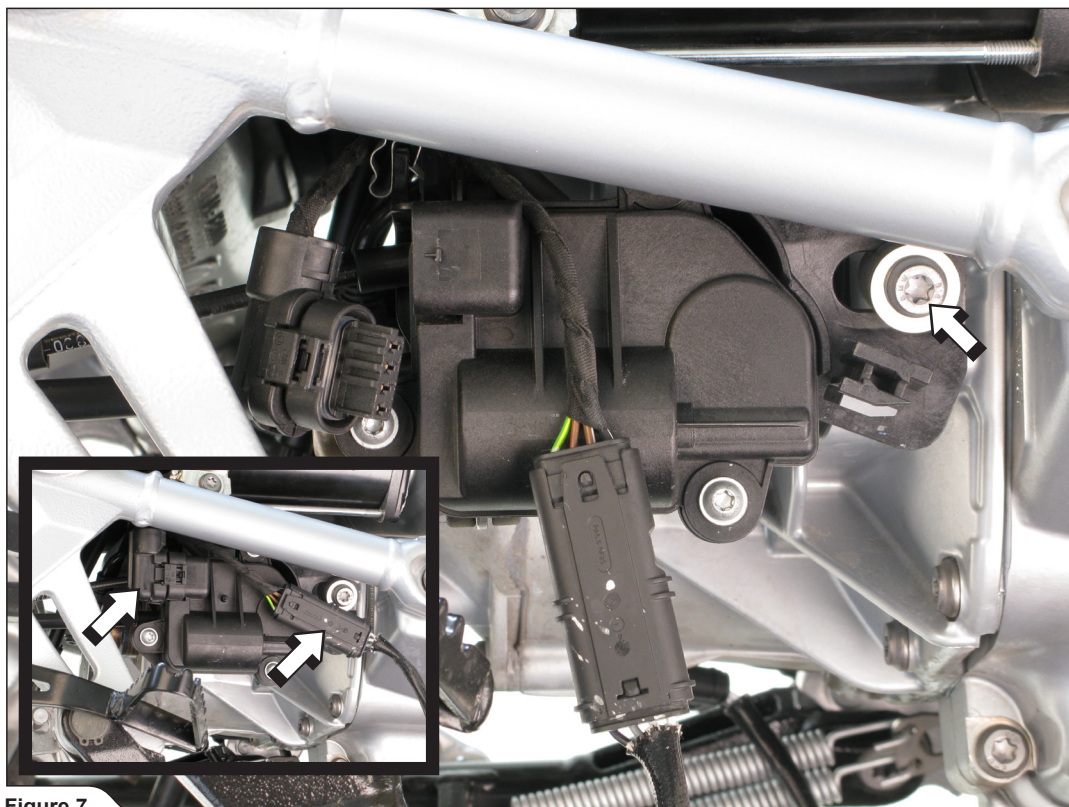

Figure 7
7. Unhook the right cylinder's lambda connector, disconnect the exhaust valve servo's connector, unscrew the marked bolt and carefully remove the servo together with valve's cables off the motorcycle (**Figure 7**).